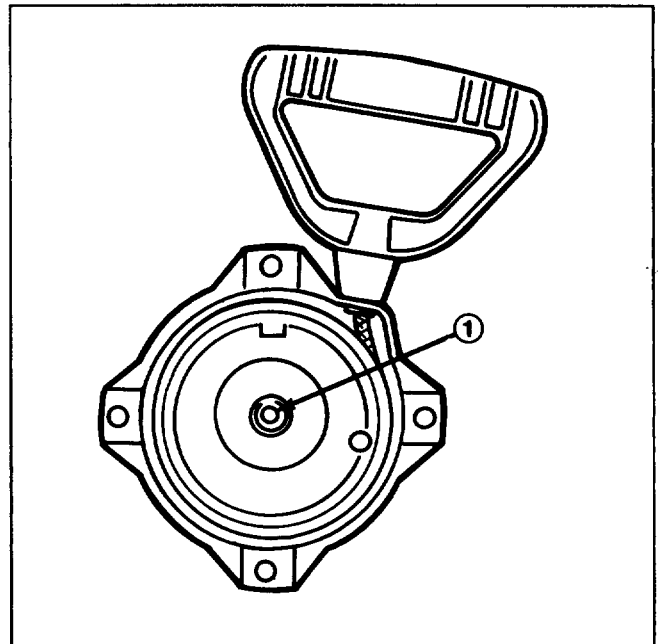

Figure 2
1. Depending on model of snowthrower, remove either (4) screws or nuts securing recoil starter housing to blower housing.
2. If recoil assembly is equipped with a center plug in housing (Fig. 2), push it out from backside and proceed to step 4. If not so equipped, refer to step 3.